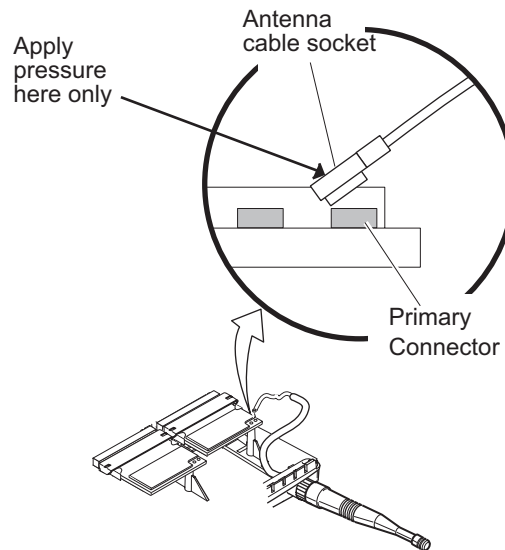

Figure 8. Connecting the Antenna Cable Socket
5. Connect the antenna cable socket to the connector on the radio. It may be easier to connect the socket and connector if you tilt the socket first before pushing it down. (See Figure 8 on page 18.)